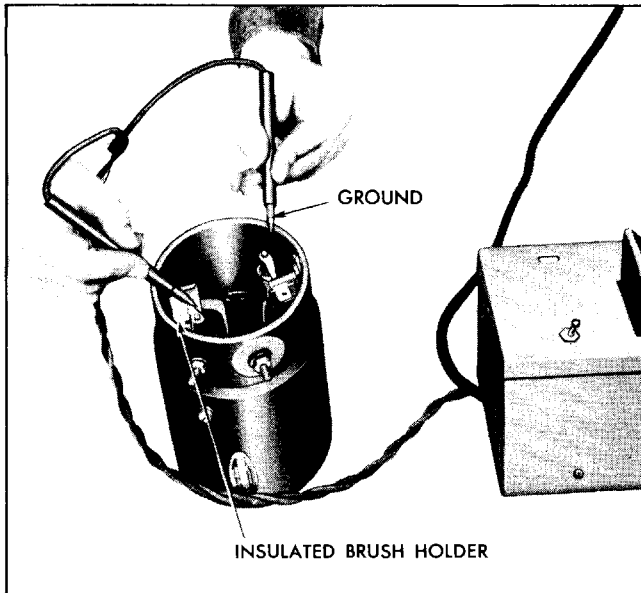

Fig. 12-22 Testing Positive Brush Holder for Ground
h. Using a 110-volt test lamp, place one lead on the positive or insulated brush holder and the other lead on ground. If lamp lights the brush holder is grounded due to defective insulation at the frame (Fig. 12-22).